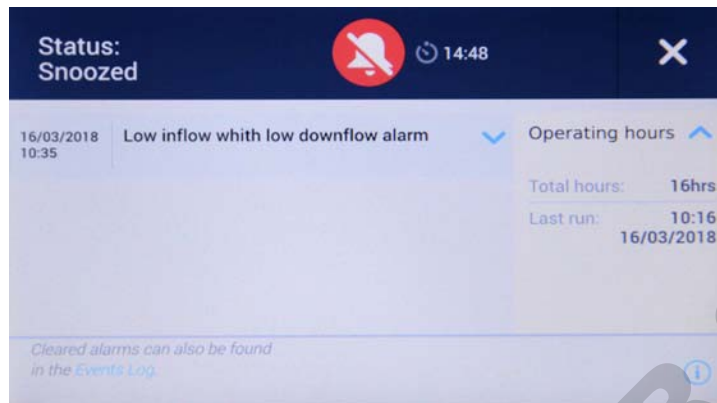

Figure 59 “Health Status Alarm” Screen
Additionally, you will be taken directly to the Health Status Danger screen with its alarm list shown in Figure 59.
4. Tap the red “Health Status Alarm” icon  to display the “Health Status Alarm” screen shown in Figure 59 and review the alarm list.